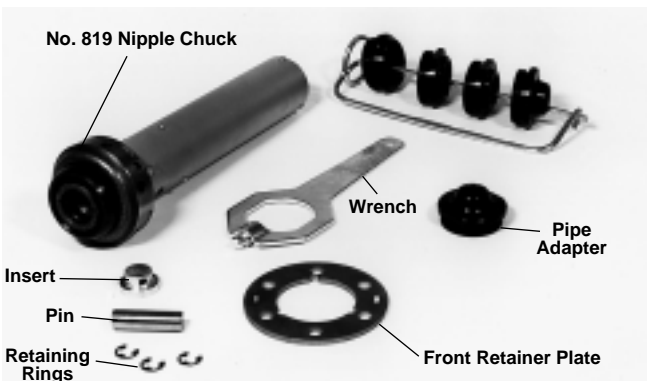

Figure 15 – No. 819 and No. 839 Assembly
1. The machine utilizes No. 819 Nipple Chuck and existing size adapter. Mounting requires a No. 839 Adapter Kit (Figure 15).